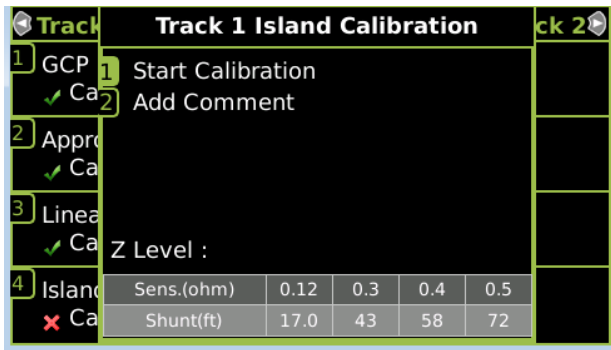
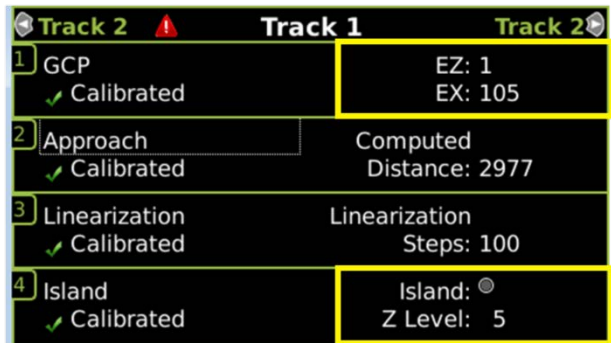

Figure 7 Island Calibration Window
Figure 8 Track Detail View EZ Level and Island Z Level
<p>Step 2</p>	<p>Temporarily install a hardwire shunt beyond the island receiver rail connections at the appropriate distance specified below the Calibration Required message.</p> <ul style="list-style-type: none"> Shunt distances for island frequencies are provided in the table following the Island Calibration procedure. The appropriate ones for the configured island frequency are also shown on the calibration screen as shown in Figure 7. Ensure EZ value is less than or equal to 5. See Figure 8.
Step 6	Following railroad policies concerning the use of jumper wires. Place a jumper wire across the RCV1 and RCV2 receiver wires at the main terminal board and verify the EZ value is less than or equal to 5. If the EZ value is greater than 5 and the jumper is confirmed to be securely connected, use additional jumper wires in parallel until an EZ less than or equal to 5 is achieved. The crossing should activate. Note the Island Z value with the jumper applied. See Figure 8.
Step 10	If either Island Z value is 40 or greater, remove the board from service and contact Siemens Rail Automation Technical Support at (800) 793-7233 Option 1. Inform the operator you have a track board that failed functional checks for Island Z value. Be prepared to provide the following information: <ol style="list-style-type: none"> 1. Your contact information 2. Part number 3. Serial number and hardware version 4. The EZ and Island Z values recorded during the test.